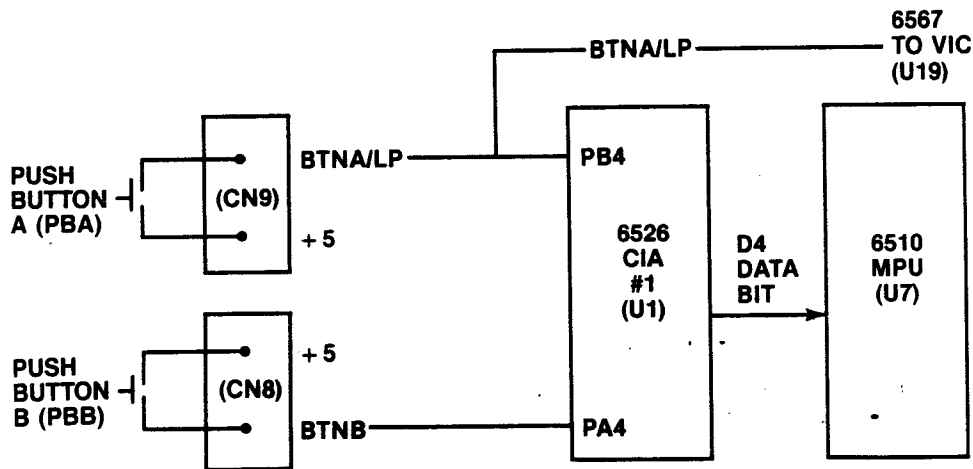

Fig. 2-29. Push-button circuitry.
The push button on each of your game paddles connects to your Commodore 64 system as shown in Fig. 2-29. These button switches are normally closed (NC), placing + 5 volts on the input to 6526 CIA #1 port A or port B, bit PA4 or PB4. Each time you depress a button, you open the circuit placing 0 volts on that par-